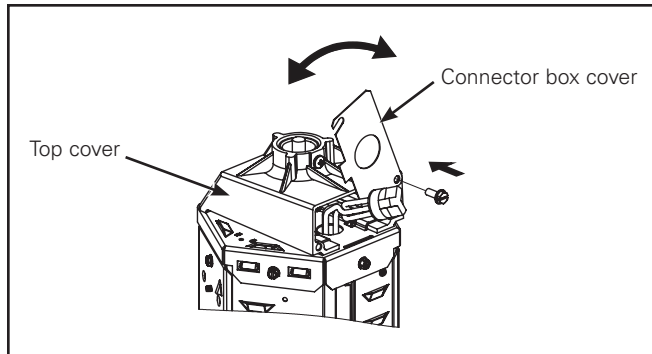

Figure 4.
2. Pivot the Connector box cover to Connector box with screw (Figure 4).